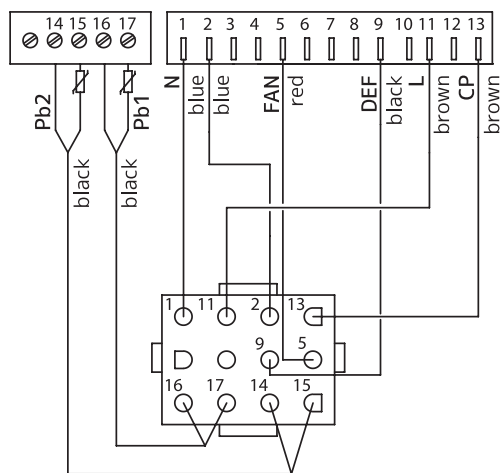

Fig. 7.
7. Connect control wires to counter's controller as showed on wiring diagram (fig. 7);